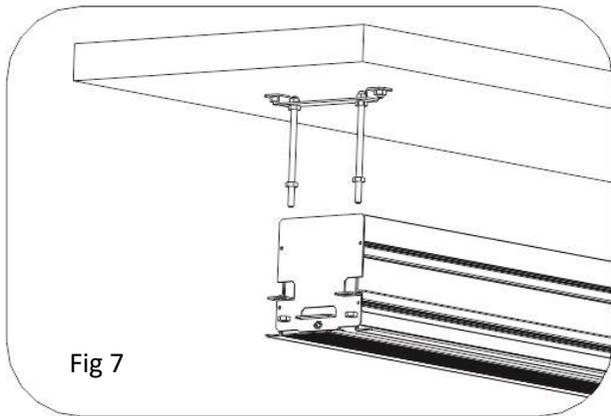
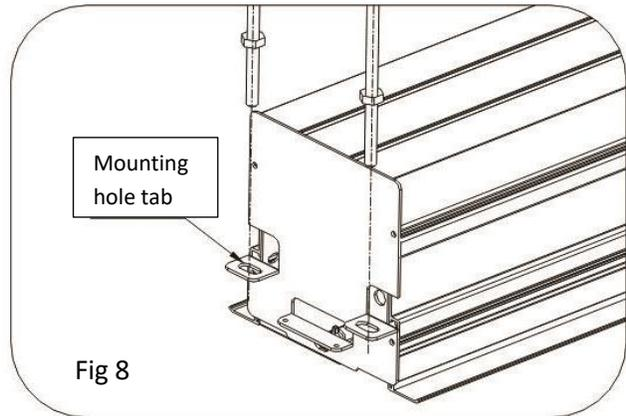

Fig 7
Fig 8
6. Once the **Threaded rods (G)** are secured in the **Ceiling hanging brackets (D)**, Fig. 7, hang the **screen** from the **threaded rods** one side at a time through the **mounting hole tabs** located on the side end of the screen's case, Fig. 8.